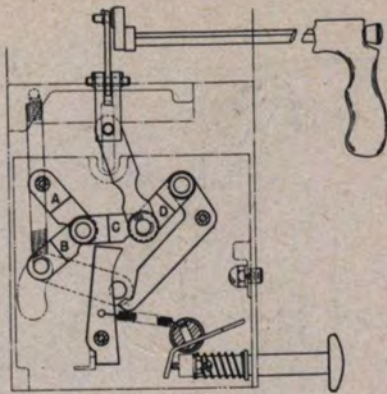
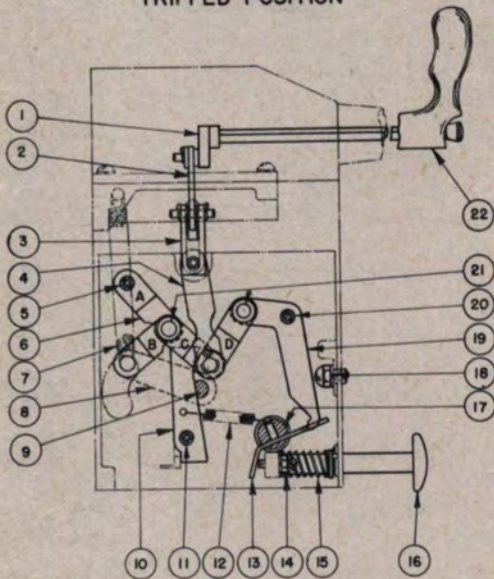

FIG. 9A
FIG. 9B
**Tripped Position** - In the tripped position (Fig. 9A) the trip arm (Pt. 19) of the toggle mechanism is free of the trip latch (Pt. 13). Other links assume the positions shown. The handle is "down".
**Reset Position** - When the manual handle (Pt. 22) is turned counter-clockwise to the "reset" position with the handle up (Fig. 9B) the eccentric on the handle shaft (Pt. 1) lowers the pair of closing links (Pt. 4), collapsing the toggle links (Pts. 6C and 6D), causing the trip arm (Pt. 19) to revolve about its fixed pivot (Pt. 20) and engage the trip latch (Pt. 13), because toggle links (Pts. 6A and 6B) are held in collapsed position by spring (Pt. 7).
The AE-1-15 breaker is trip free because the toggle links (Pt. 6A and Pt. 6B) cannot be extended to close the contacts by the main shaft (Pt. 9) as long as the trip shaft (Pt. 17) is held in the tripped position by any device. This prevents the trip arm (Pt. 19) from being held in position as shown in Fig. 9B and even if an attempt is made to close the breaker the trip arm simply returns to the position shown in Fig. 9A.